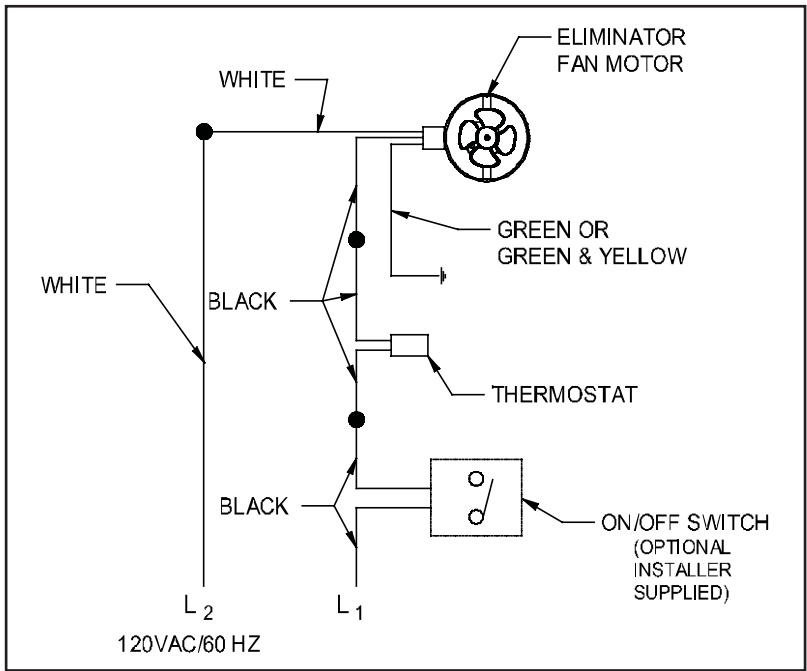

Figure 5
**WIRING (See Figures 5 & 6)**